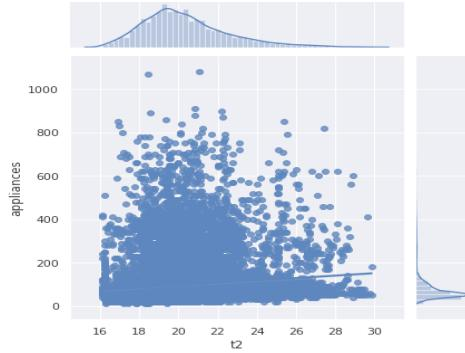

Fig 28
- Between Appliance and T2, as shown in fig 28